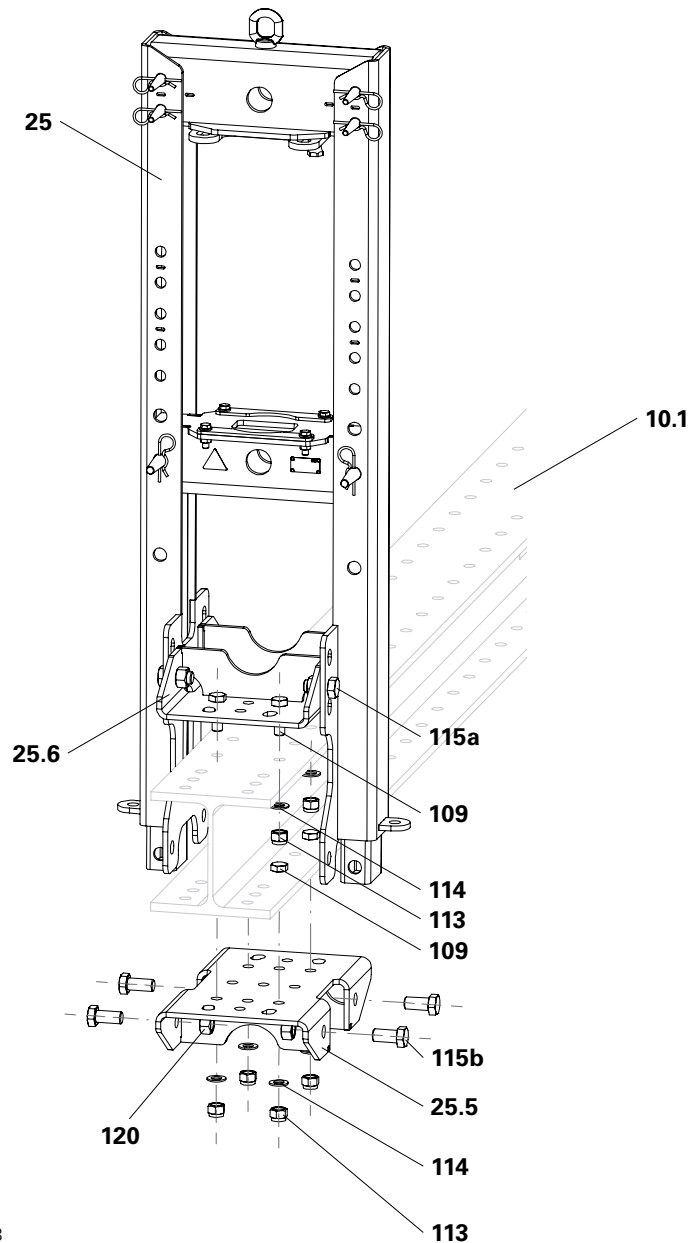

Fig. B2.03
7. Fix the Lift Frame (25) to the Base Beam with bolts M20x60 (109), washers M20 (114) and self-securing nuts M20 (113).
9. Remove crane lifting gear. (Fig. B2.03)